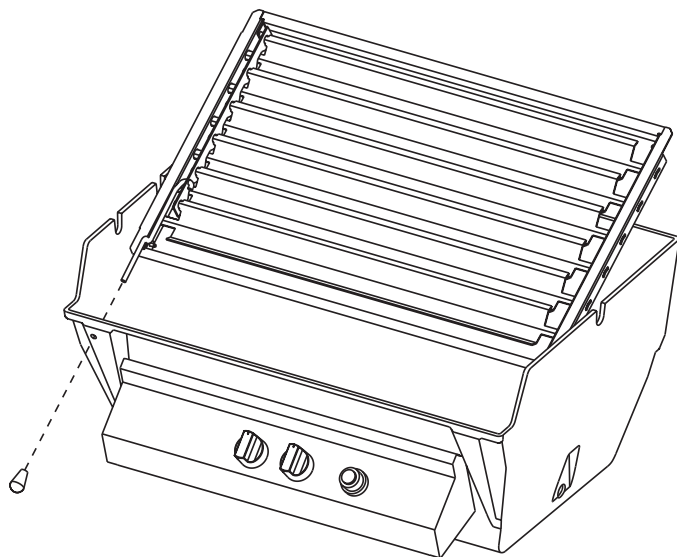

Figure 4
12. Grasp center of one shutter with your right hand. Grasp actuator rod with your left hand. Pivot smoker shutter assembly into grill body bottom as you insert actuator rod through 5/16" hole that you drilled. Refer to Figure 4. The 9" actuator rod will also be inserted through front panel on grill surround.